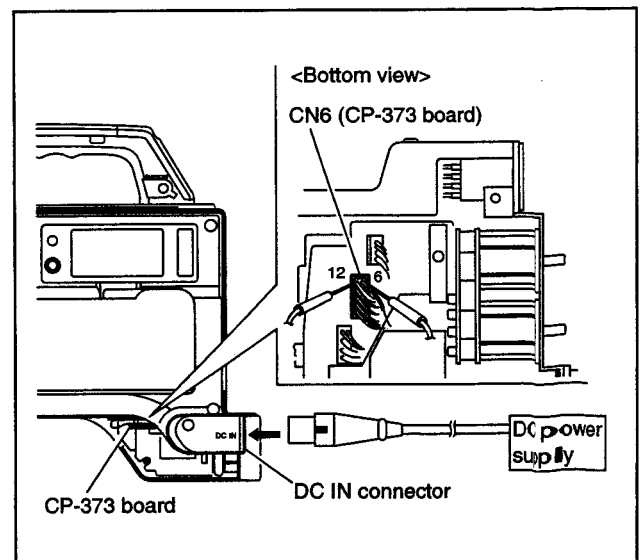

Fig.1
- Touch the lead tip of the digital voltmeter to pin 6 (GND) and pin 12 (DC power) of connector CN6 on the CP-373 board as shown in Fig. 1, and adjust the DC power supply to the specified voltage of each item.
2. Press the RESET (MENU SET) button to blink the voltage displayed on the display window (Fig. B). Adjust the DC power supply so that the digital voltmeter shows 11.30 V (Fig. 1).
2. Press the RESET (MENU SET) button to blink the voltage displayed on the display window (Fig. B'). Adjust the DC power supply so that the digital voltmeter shows 10.98 V (Fig. 1).
2. Press the RESET (MENU SET) button to blink the voltage displayed on the display window (Fig. B"). Adjust the DC power supply so that the digital voltmeter shows 13.00 V (Fig. 1).